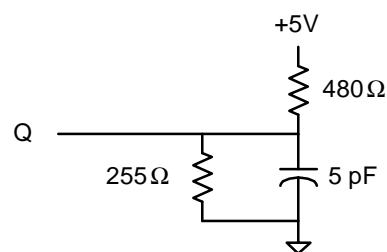

Fig. 2 OUTPUT LOAD EQUIVALENT
- Output loading is specified with $C_L = 5pF$ as in Fig. 2. Transition is measured $\pm 500mV$ from steady state voltage.